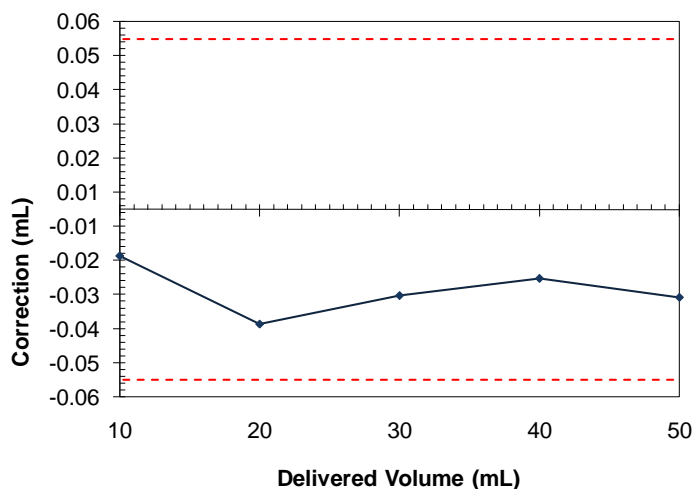

Figure 3: Correction curve for a 50-mL buret.
A way to correct for **systematic errors** of this type is to construct an experimental calibration curve, as the one illustrated in **Figure 3**. Fill the buret to the mark with distilled water, previously equilibrated to room temperature, and transfer 10 mL portions to a previously weighed flask. Weigh the flask and its contents. From the difference in these masses, calculate the mass of water delivered. Calculate the exact volume delivered (corrected for temperature and buoyancy) with the aid of **Table 1**. Repeat the procedure several times. Refer to **Box 1** for an example of the required data and calculations.
For example, if you begin a titration at 0.04 mL and end at 29.00 mL, you would deliver 28.96 mL, provided that the buret is perfect. However, **Figure 3** shows that the buret delivers 0.03 mL less than the indicated amount, so only 28.93 mL is really dispensed. To use the calibration curve in the future, you should begin all titrations near the 0.00 mL mark.
- Prepare a CORRECTION GRAPH (AVERAGE CORRECTION VS VOLUME DELIVERED), as the one illustrated in Figure 3.